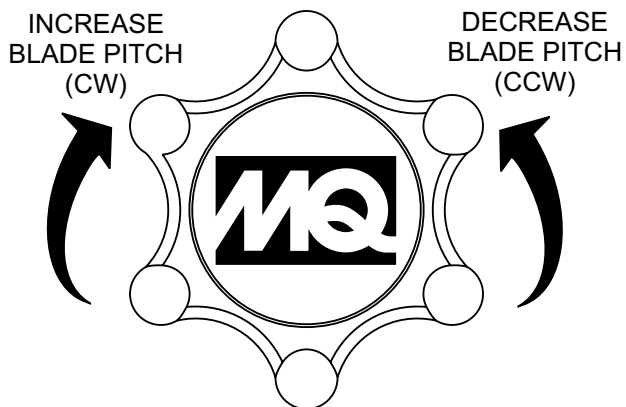

Figure 8. Adjusting Cable Blade Pitch (Folding Handle)
1. For trowels equipped with a **Edger-Folding** handle (FXHSe), simply turn the **star wheel** counterclockwise to pitch the blades flat. This will release the tension on the blade pitch cable (Figure 8).